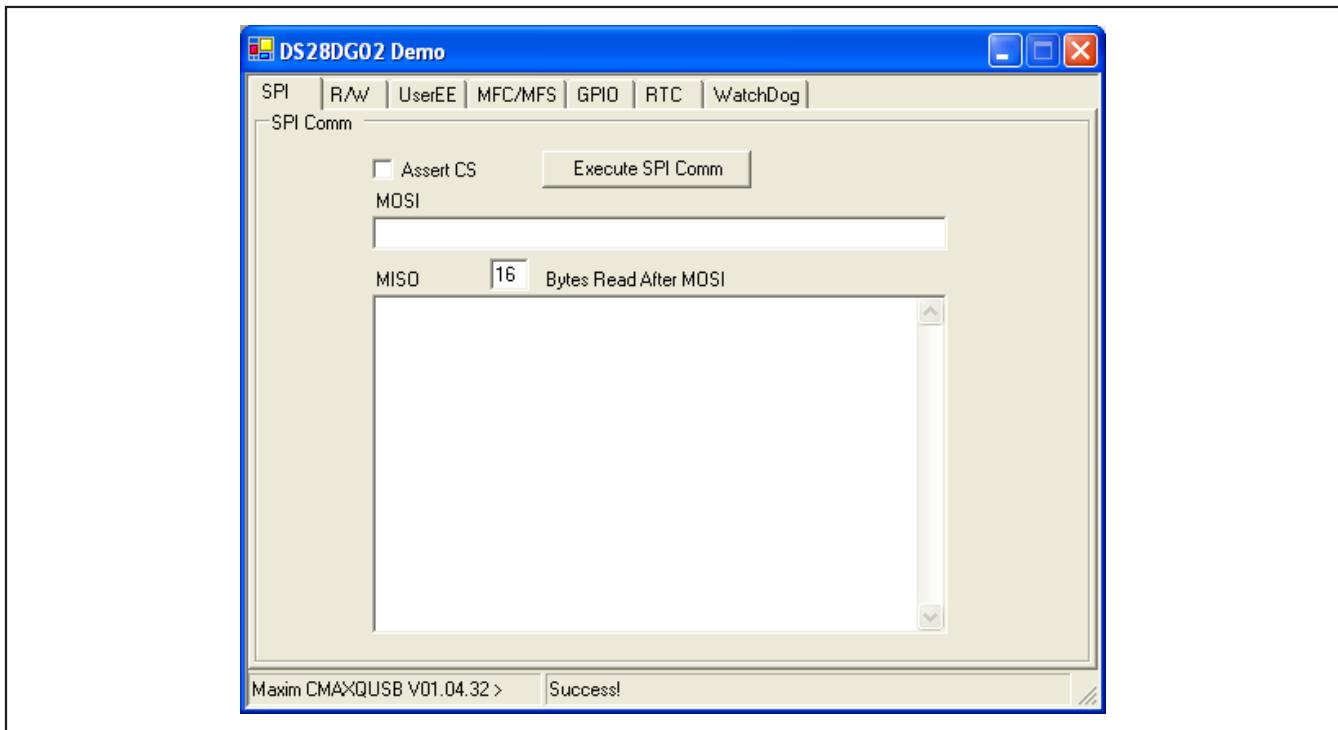

Figure 3. DS28DG02 Evaluation Software: Main Window
Figure 3 shows the DS28DG02 software program's main window. Note that it consists of seven tabs, with each tab offering the ability to exercise a group of related DS28DG02 functional blocks. The sections are: **SPI**, **R/W**, **UserEE**, **MFC/MFS**, **GPIO**, **RTC**, and **WatchDog**. Each of these tabs is described in this section.
See Figure 3 for a screenshot of the **SPI** tab. This tab allows the user to input raw SPI commands and communicate to the DS28DG02 through this low-level serial protocol. The user can assert the chip select (CS) pin to enable communication to the device, and send data to the chip by inputting data into the master-out, slave-in (**MOSI**) text box and clicking the **Execute SPI Comm** button. MOSI is also read out from the chip during the data exchange.